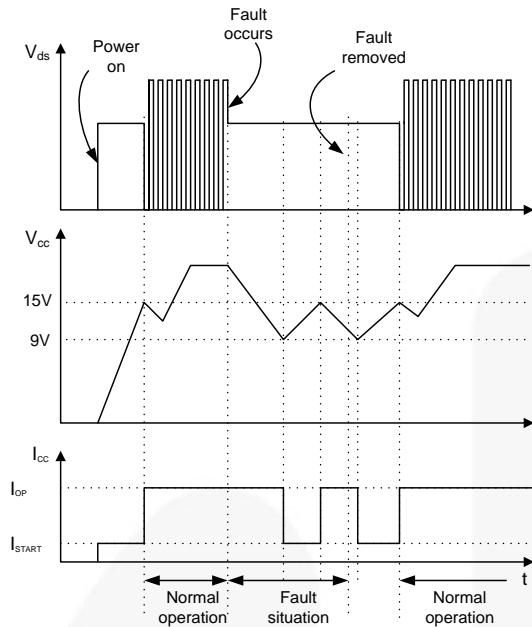

Figure 33. Auto Restart Mode Protection
- **Auto-Restart Mode Protection:** Once the fault condition is detected, switching is terminated and the SenseFET remains off. This causes V_{cc} to fall. When V_{cc} falls to the under voltage lockout (UVLO) stop voltage of 9 V, the protection is reset and the FSCQ series consumes only startup current (25 μ A). Then, the V_{cc} capacitor is charged up, since the current supplied through the startup resistor is larger than the current that the FPS consumes. When V_{cc} reaches the start voltage of 15 V, the FSCQ series resumes its normal operation. If the fault condition is not removed, the SenseFET remains off and V_{cc} drops to stop voltage again. In this manner, the auto-restart can alternately enable and disable the switching of the power SenseFET until the fault condition is eliminated (see Figure 33).